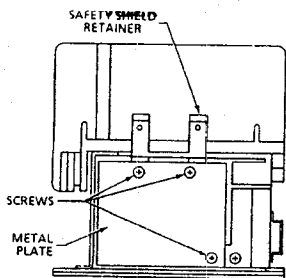

FIGURE 3
- a. Remove the three screws, metal plate or auxiliary contacts when used and the safety shield retainer shown in Figure 3.